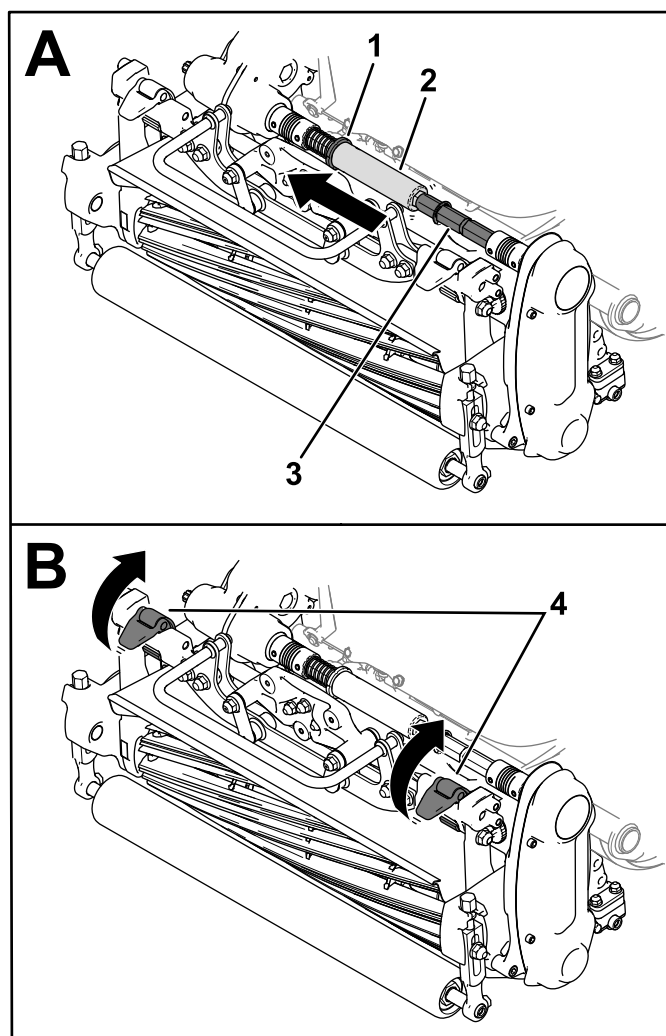

Figure 42
3. Move the collar (Figure 42) into the transmission-shaft groove.
4. Slide the hex tube off of the cutting-unit coupler shaft (Figure 42).
5. Move the suspension latches up to release the cutting unit from the machine (Figure 42).